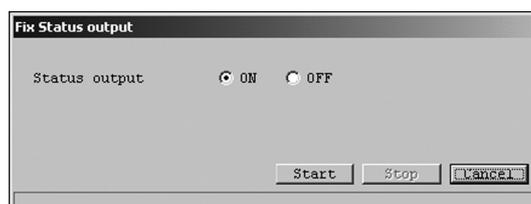

Fig.125
- ① Click the "Diag/Service (T)" menu, and then select and click "Fix Status output" from the "Loop Test" drop-down list.
- ② The following window will be displayed (Fig. 125). Select either "ON" or "OFF" for the simulated output state, and then click the "Start" button.
Click the "Cancel" button to return to the window shown in Fig. 125.
- ⑥ Clicking the "OK" button would return the interface to the window shown in Fig. 125, so click the "Cancel" button to exit "Fix Status output".